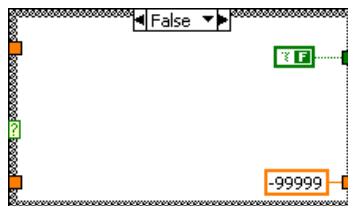

Figure 8.15
2. Complete the False case of the Case Structure, shown in Figure 8.15.